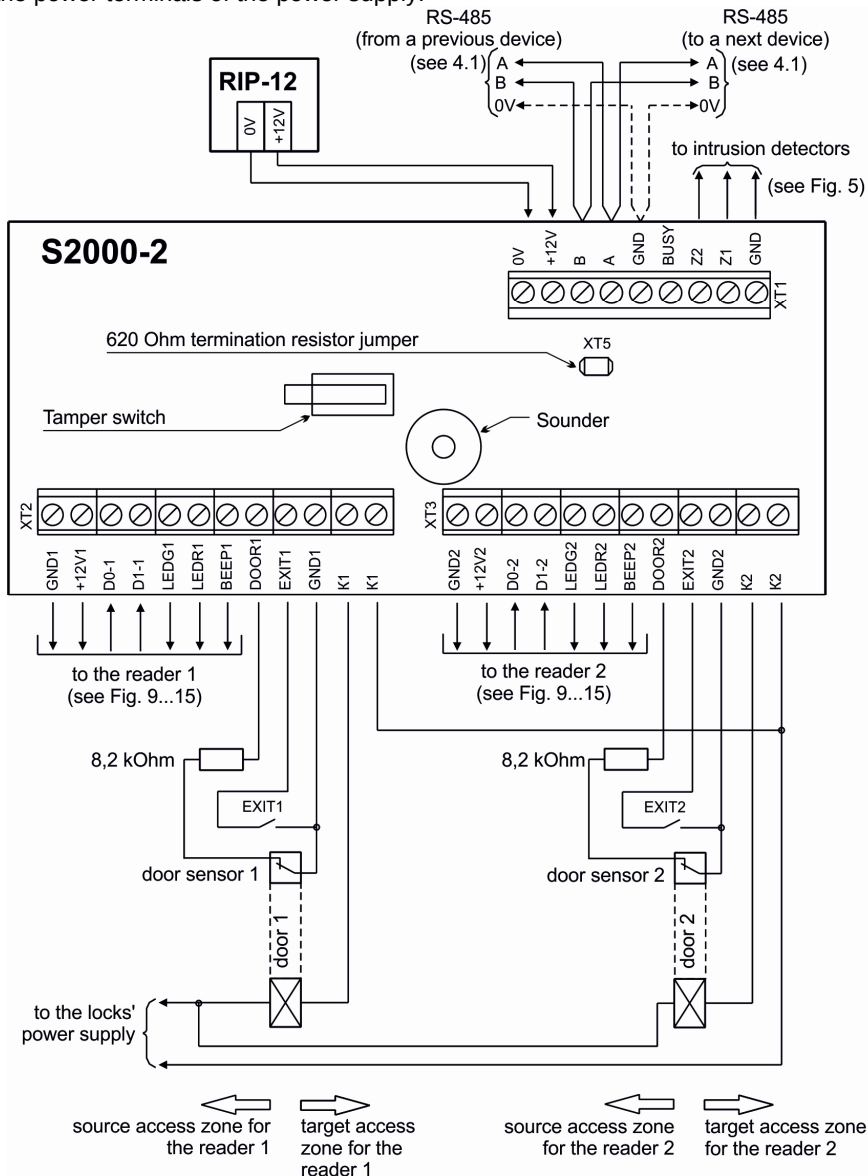

Figure 17. Wiring the S2000-2 in the Two Entrance Doors Operation Mode
4.7.1 Connect hardware of the first door (a reader, a lock, an EXIT button, a door position sensor) to the controller terminals with “1” at the end of their designations and hardware of the second door to the terminals with “2” at the end of their designations (see Figure 17).